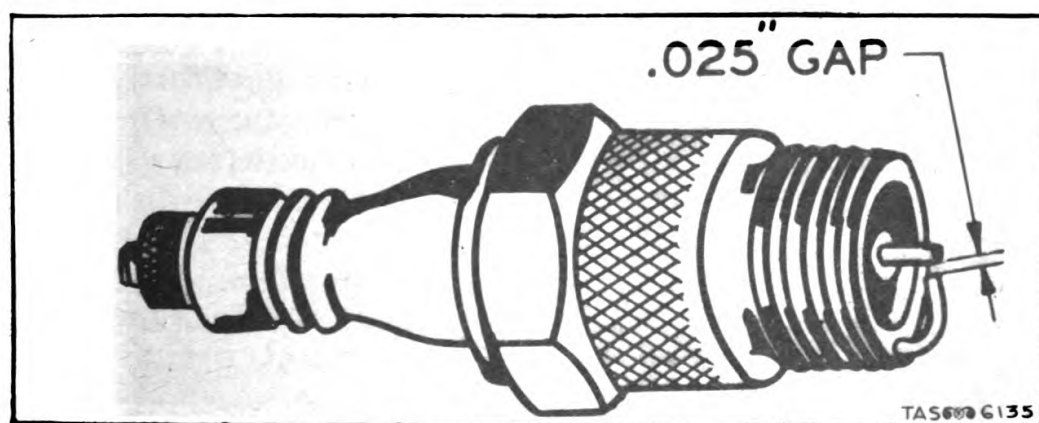

Fig. 135. Correct Gap on Spark Plug Is .025 Inch.
u. Spark plug. (See fig. 135.) The correct gap on the spark plug is .025 inches.
v. Special oil hand-regulating needle valve. (1) This valve must be closed tightly before starting operations. As soon